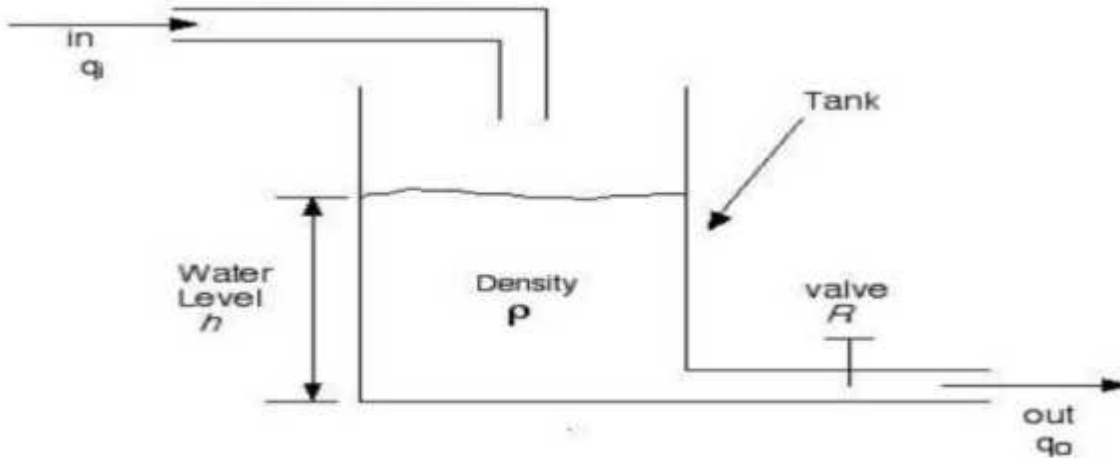

Figure 4: A water level control system of a storage tank
- (7) With the aid of block diagrams explain open-loop and closed-loop control systems and explain the difference between the two systems.
- (8) List the six established orderly sequence for the design of feedback control systems
- (9) Consider a water level control system of a storage tank of cross-sectional area  $A$  whose liquid level or height is  $h$  shown in Figure 4. The liquid enters the tank from the top and leaves the tank at the bottom through the valve, whose fluid resistance is  $R$ . The volume flow rate in and the volume flow rate out are  $q_i$  and  $q_o$ , respectively. The fluid density is constant. In such a system it is desired to regulate the water level in the tank. Assume that the variable that we can change to control the water level is  $q_i$ .